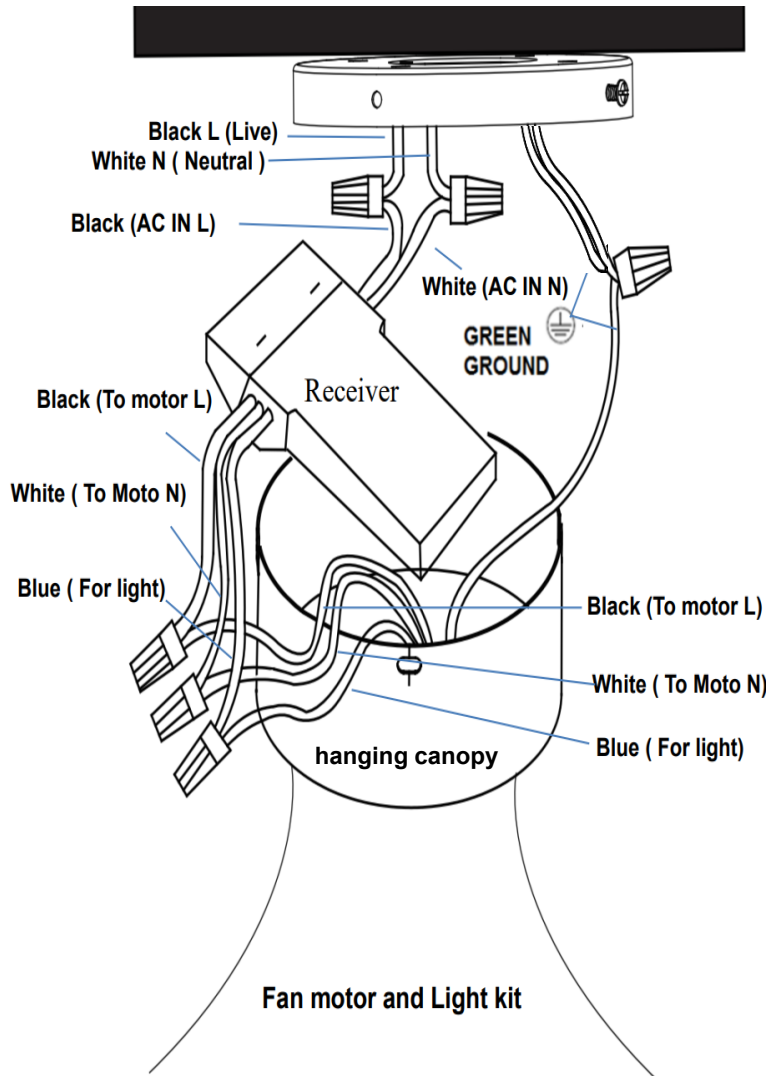

Fig. 7
Complete the electrical wiring using the diagram below (Figure. 7).
Follow the steps below to connect the fan to your household wiring. Use the wire connecting nuts supplied with your fan. Secure the connectors with electrical tape. Make sure there are no loose wire strands or connections. **Fig. 7**
1. Connect the household live supply wire (black) to receiver input wire (black, AC IN L) as shown in **Fig. 7**